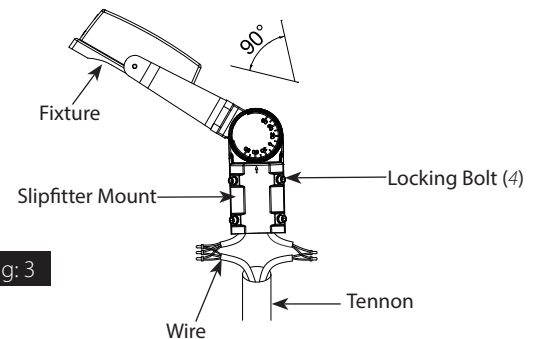

Fig. 3
1. Place the **Slipfitter** over the **Tennon** and secure the **Fixture** with the **Locking Bolts (4)** on the side of the **Slipfitter** as shown in **Fig. 3**.